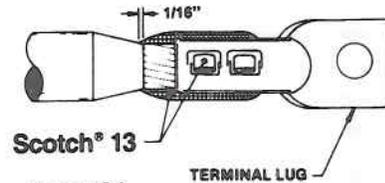

FIGURE 3
1. Fill indents in lug. See Figure 3.
2. Wrap two half-lapped layers of 13 Tape over lug. See Figure 3.